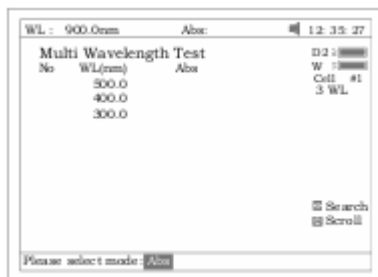

Fig.70
2. Press **[F2]** to select mode (Fig 70).